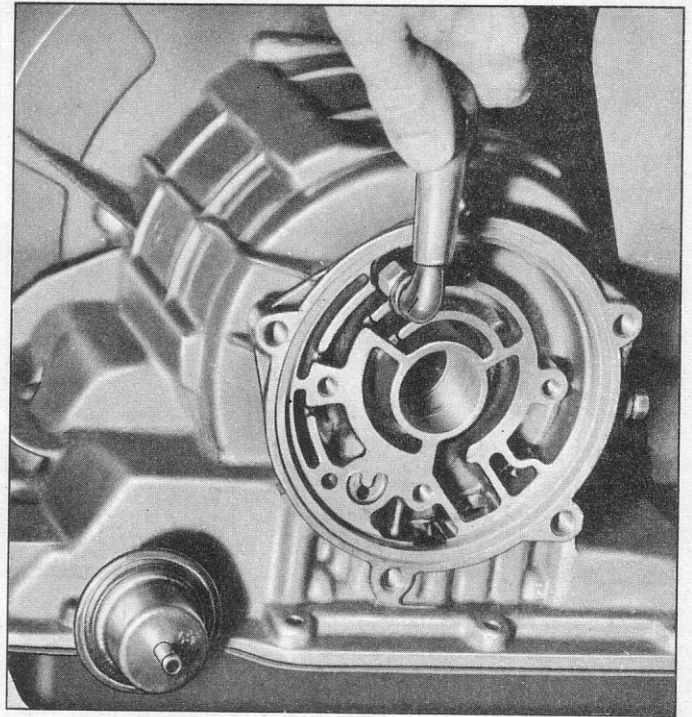

Fig. 16—Applying Air to Remove Rear Piston
20. Remove the rear piston by applying air to the reverse port in the rear of the transmission case as shown in Figure 16. Remove the inner and outer seals.